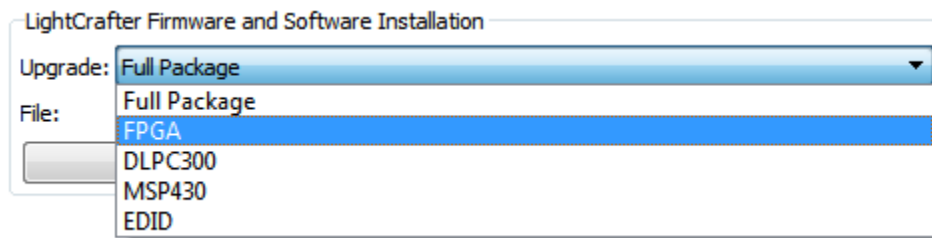

Figure 2-56. DLP LightCrafter GUI Firmware Select Drop-Down Options
2. Select which firmware to upgrade and then click the Browse button as shown in Figure 2-56.